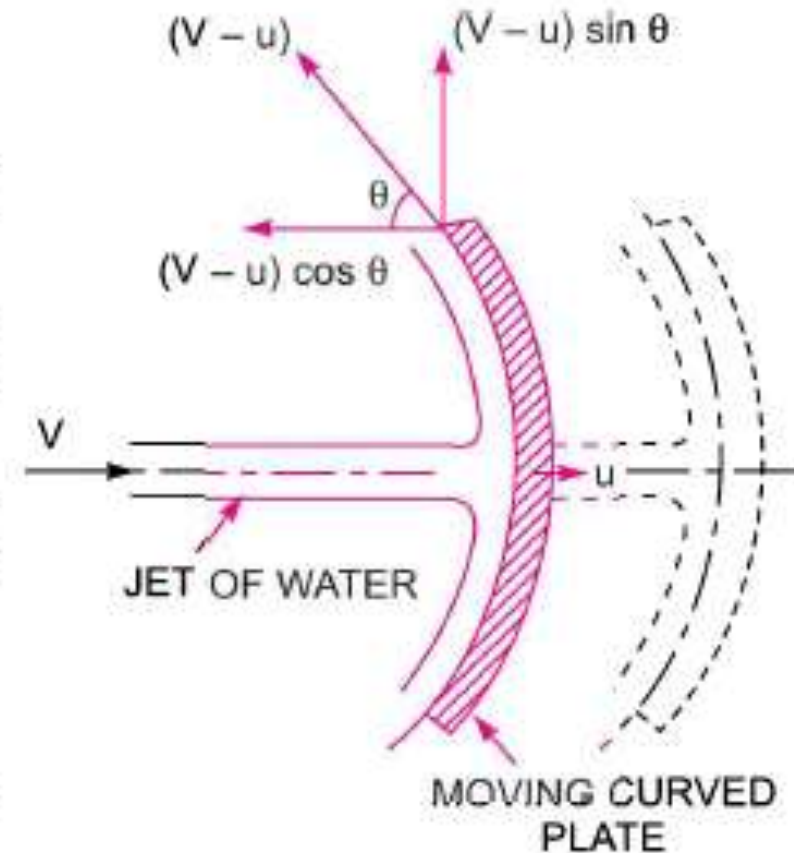

Fig. 17.12 Jet striking a curved moving plate.
17.4.3 Force on the Curved Plate when the Plate is Moving in the Direction of Jet. Let a jet of water strikes a curved plate at the centre of the plate which is moving with a uniform velocity in the direction of the jet as shown in Fig. 17.12.